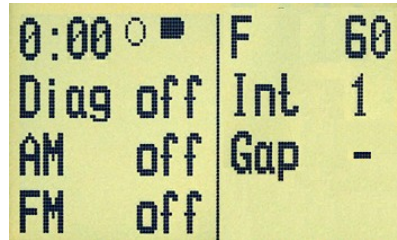

Fig.2
5.3 Then the device will switch to the basic mode (hereinafter called "**B** mode"), and the major parameters of stimulation will be displayed (Fig.2).